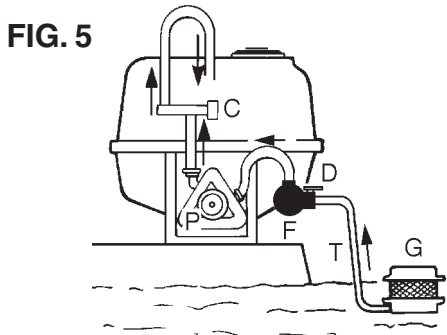

FIG. 5
a) FILLING WITH THE 3-WAY DEVIATOR (Fig. 5).